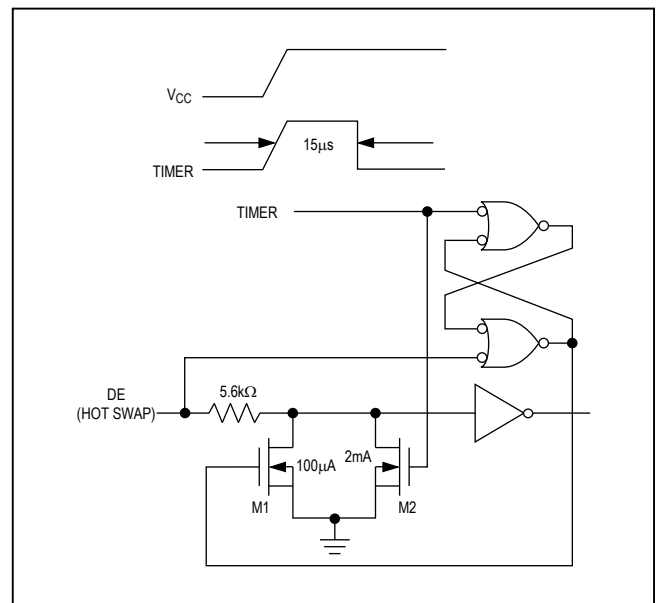

Figure 10. Simplified Structure of the Driver Enable Pin (DE)
At the driver-enable input (DE), there are two nMOS devices, M1 and M2 (Figure 10). When  $V_{\text{CC}}$  ramps from zero, an internal 15 $\mu\text{s}$  timer turns on M2 and sets the SR latch, which also turns on M1. Transistors M2, a 2mA current sink, and M1, a 100 $\mu\text{A}$  current sink, pull DE to GND through a 5.6k $\Omega$  resistor. M2 pulls DE to the disabled state against an external parasitic capacitance up to 100pF that may drive DE high. After 15 $\mu\text{s}$ , the timer deactivates M2 while M1 remains on, holding DE low against three-state leakage currents that may drive DE high. M1 remains on until an external current source overcomes the required input current. At this time, the SR latch resets M1 and turns off. When M1 turns off, DE reverts to a standard, high-impedance CMOS input. Whenever  $V_{\text{CC}}$  drops below 1V, the input is reset.